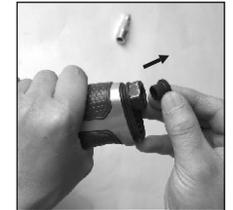

Figure 1
1. Remove the air inlet protective cap from the air hammer (A). (See Figure 1)